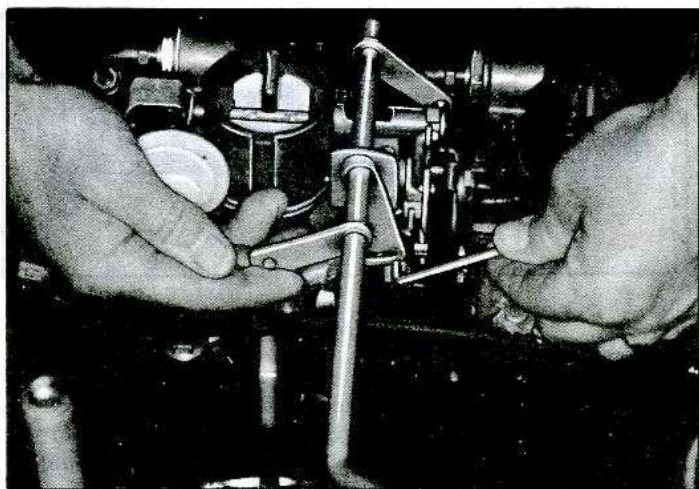

Fig. 130—Synchronization of Secondary Carburetor
4. While holding primary carburetors at full throttle position, position left secondary carburetor at full throttle position, then adjust actuating rod by turning rod in swivel until rod will just enter front of slot in cross-shaft lever. (fig. 130).